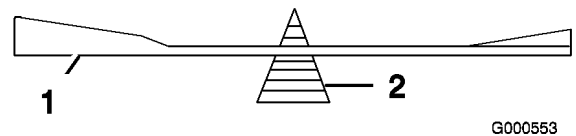

Figure 44
2. Check the balance of the blade by putting it on a blade balancer (Figure 44). If the blade stays in a horizontal position, the blade is balanced and can be used. If the blade is not balanced, repeat the sharpening procedure on the heavier side until the blade is balanced.